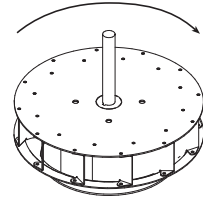

Figure 9
3. Check wheel rotation (viewing from the shaft side) by momentarily energizing the unit. Rotation should be clockwise as shown in Figure 9 and correspond to the rotation decal on the unit. If wheel rotation is incorrect, reverse two of the wiring leads or check motor wiring for single phase. Fan RPM should be checked and verified with a tachometer.